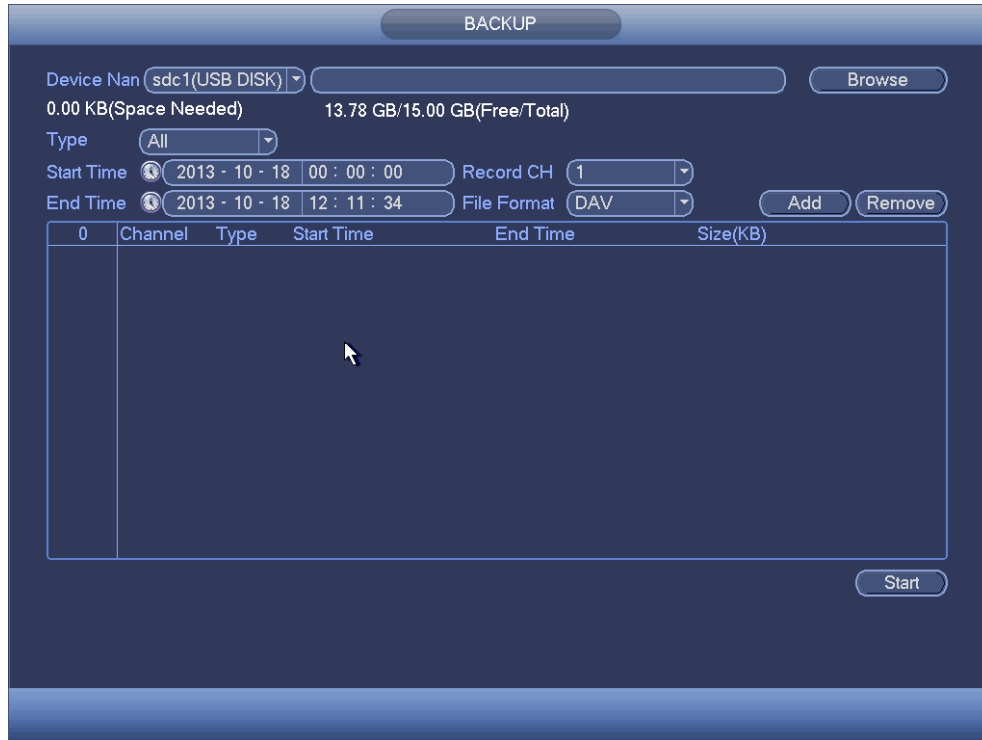

Figure 4-84
- From Main menu->Backup, you can go to the Backup interface. See Figure 4-84